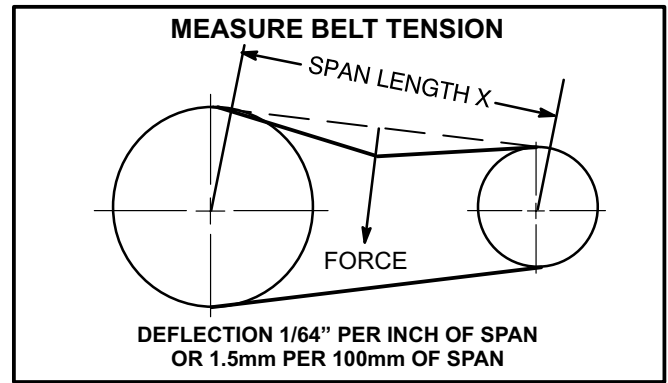

FIGURE 21
- 1- Measure span length X. See figure 21.
- 2- Apply perpendicular force to center of span (X) with enough pressure to deflect belt  $1/64"$  for every inch of span length or 1.5mm per 100mm of span length.